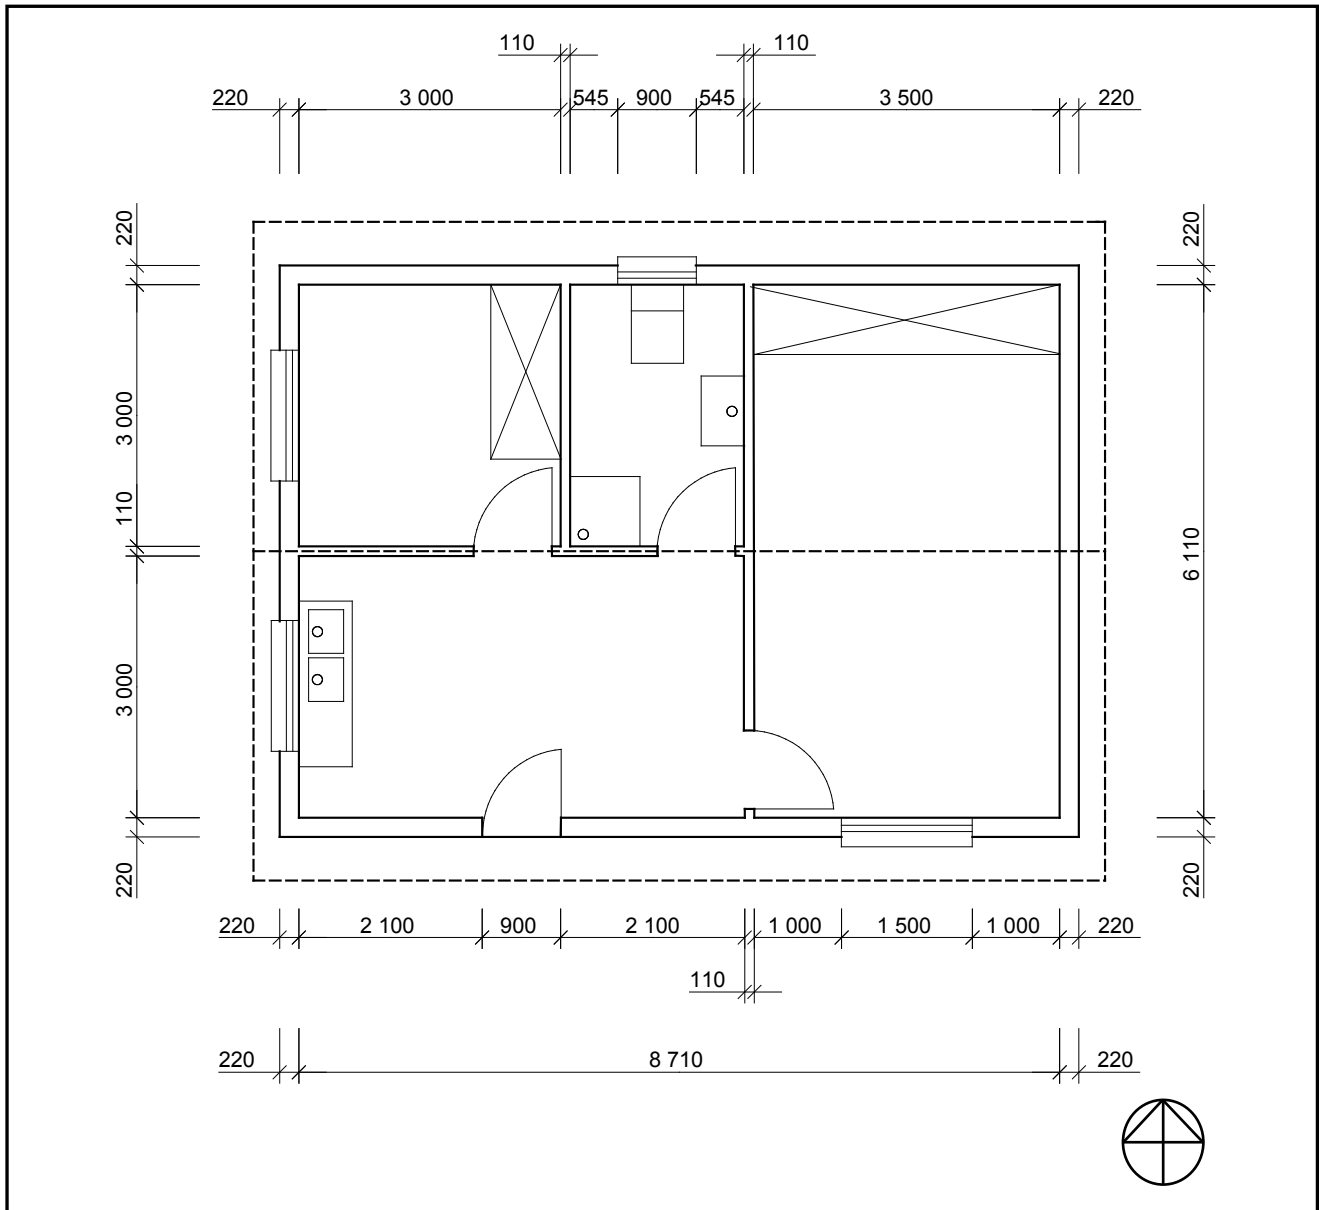

FIGURE 6.2
6.2 FIGURE 6.2 below shows the floor plan of a two-bedroom house.
6.2.1 Study FIGURE 6.2 and develop and draw, on ANSWER SHEET 6.2, to scale 1 : 50, the SOUTH ELEVATION of the building. Use the specifications below. (Use the assessment criteria on ANSWER SHEET 6.2 as a guideline for your drawing).